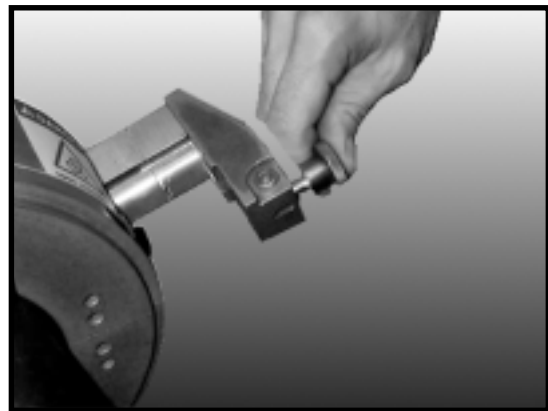

FIGURE 1
2. **Insert the frame locking detent pins** (figure 1). These pins prevent the machine halves from separating when the machine is split for in-line pipe cutting applications.
NOTE: Once the trip assembly has been properly secured, make certain that the trip pin is pulled out or in the "UP" (disengaged) position (figure 1).